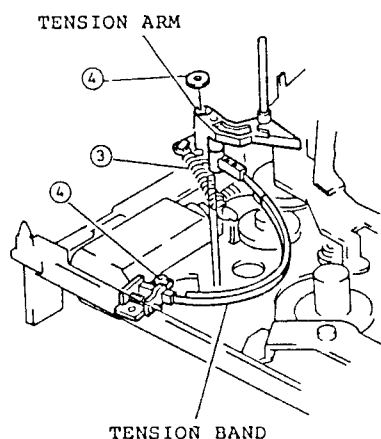

Fig. 2-75
3. Remove the spring between the tension arm and chassis. (See Fig. 2-75)
4. Remove one (1) washer holding the tension arm and one (1) screw holding the tension band.
4. Remove the tension arm and tension band. (See Fig. 2-75)
5. Remove the tension arm and tension band. (See Fig. 2-75)